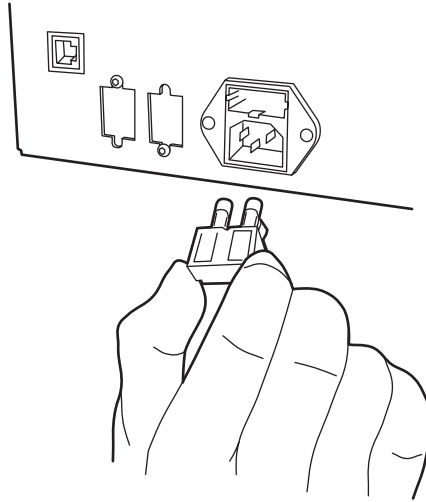

Figure 4-20 Removing and Replacing the Rear Panel Fuses and Fuse Holder
2. Insert your fingers into the fuse holder slots on the rear panel of the detector. Exerting a minimum pressure, pull on the spring-loaded fuse holder and remove it from the rear panel (Figure 4-20).